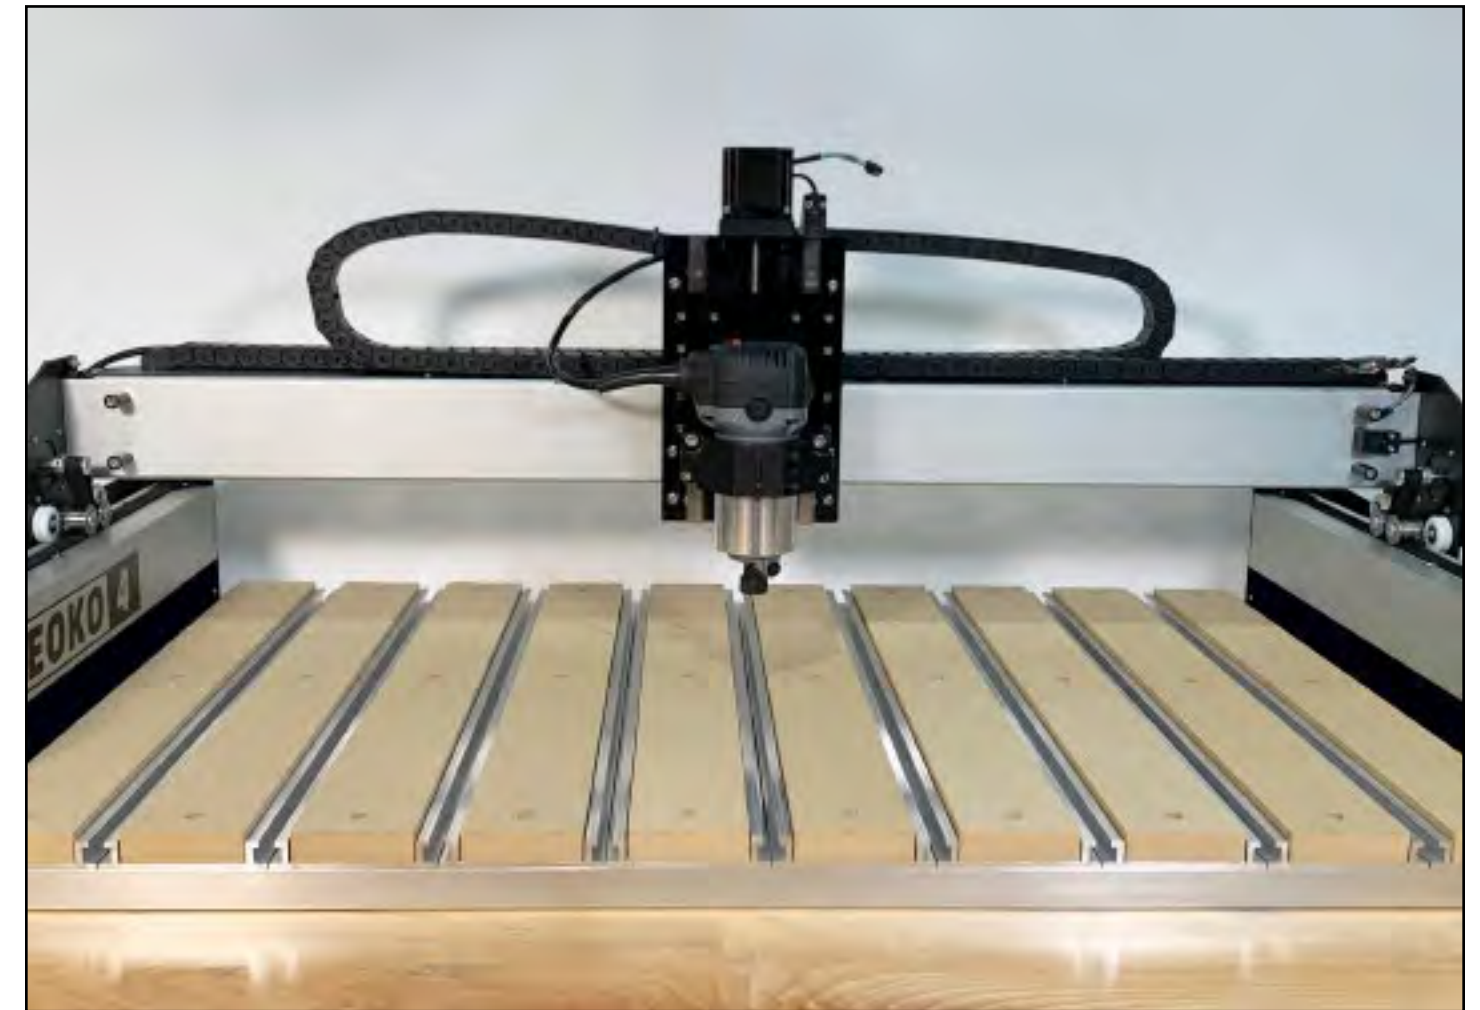

Figure 8-3
1. Position the ten (10) MDF strips inside the hybrid extrusions. See **Fig. 8-3**.
2. Use a 5mm hex key and three (3) M6×20mm SHCS to loosely attach each MDF strip.